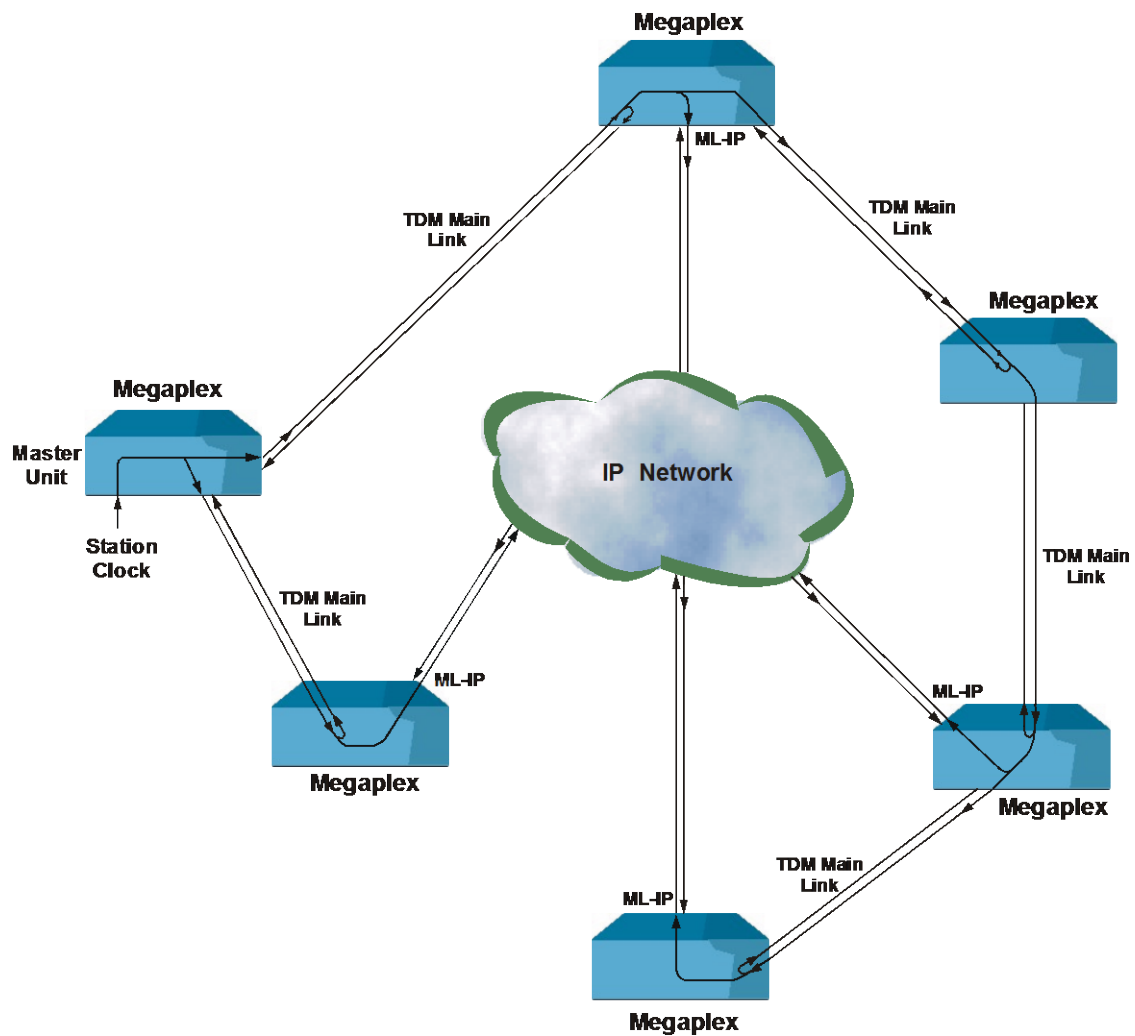

Figure 9-26. Timing Flow in a Typical Network with Mixed Link Types
*Figure 9-26* shows the resultant timing flow in a network with mixed links (both TDM and packet-switched (IP)):
- The timing of the transmit-to-network path is determined by the nodal timing of the Megaplex unit in which the module is installed. As a result, all the ML-IP modules in the network shown in *Figure 9-26* transmit data at a rate derived from a common timing source – that used by the master Megaplex unit.
The same situation occurs when the only way to connect to a Megaplex unit, which is part of a network using mixed link types (see for example *Figure 9-26*), is through an IP network.